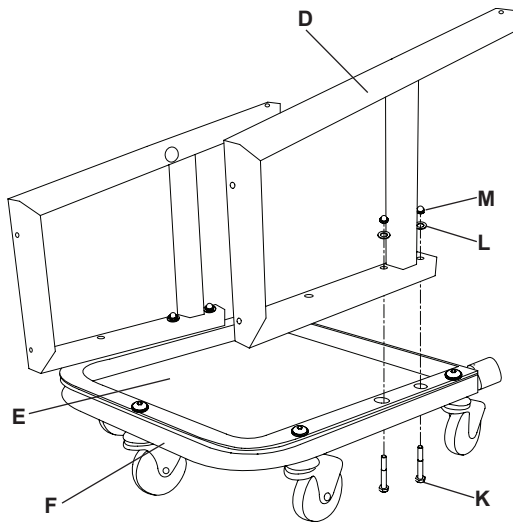

Figure 2 - Assembling tool tray and casters
2. Attach two creeper Side Frames (D) to Caster Frame (F) with two M8 x 60 Hex Head Bolts (K), two washers (L) and two acorn nuts (M) each (Fig 2).